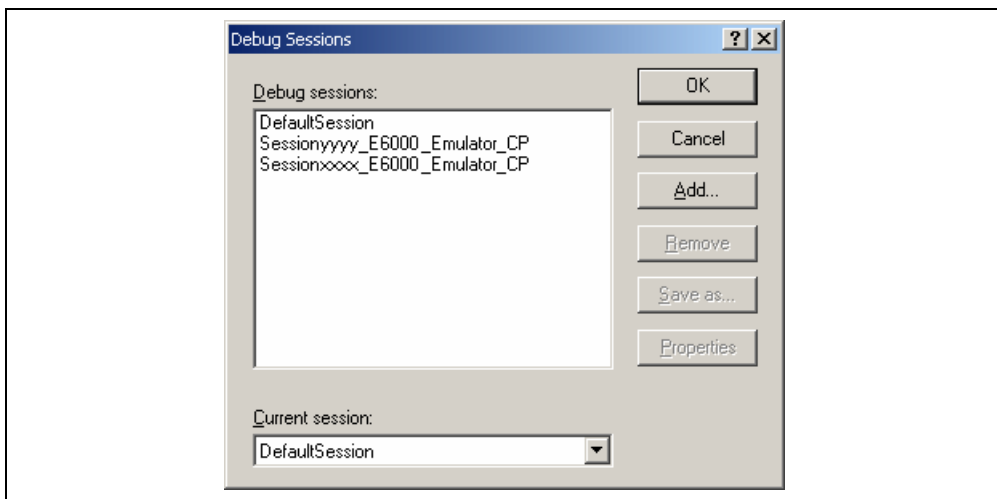

Figure 4.16 [Debug Sessions] Dialog Box
1. Select [Options -> Debug Sessions...]. This will open the [Debug Sessions] dialog box (figure 4.16).
1. Select [Options -> Debug Sessions...] to display the [Debug Sessions] dialog box (figure 4.16).